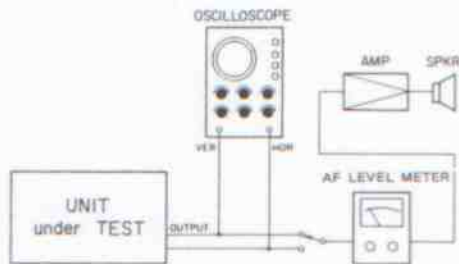

Fig. 7-6-5. Head Azimuth Test Set-Up
3. Connect an AF level meter to the OUTPUT connector(s) as shown in Fig. 7-6-5.